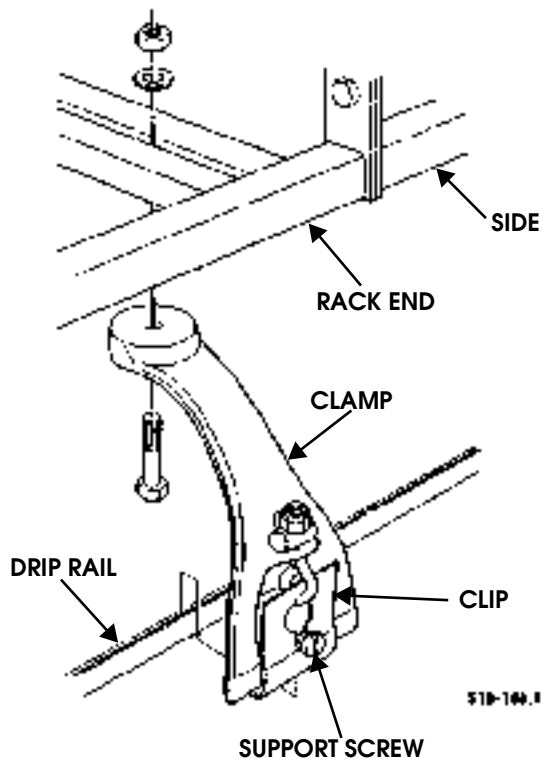

Figure 13-58: Roof Rack Clamp
4. Loosen support screw on clamp securing clip to clamp (Figure 13-58).